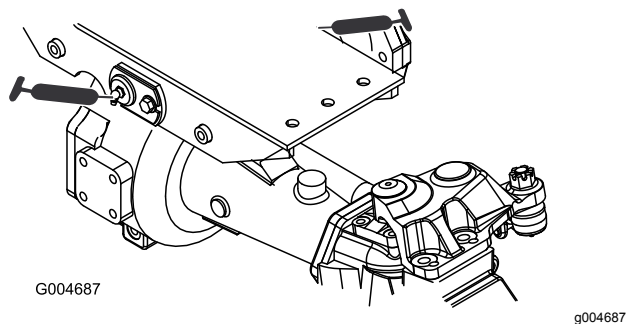

Figure 59
- Front and rear axle pivot bushings (2) (Figure 59)